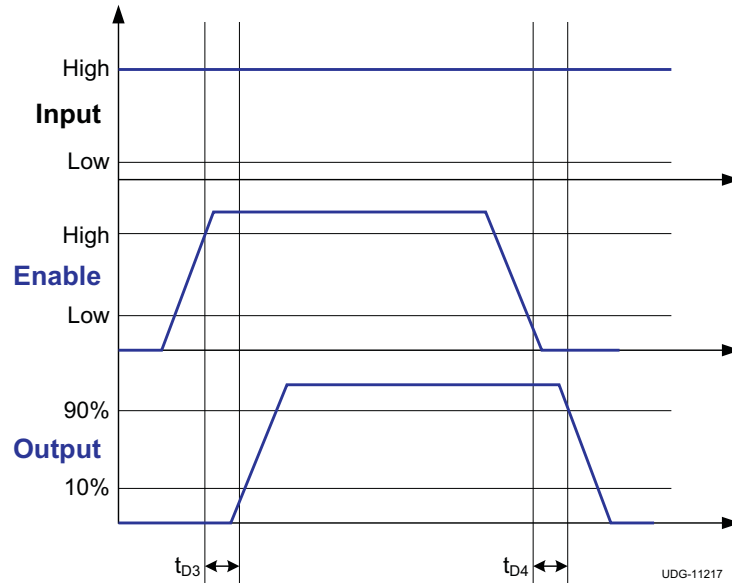

Figure 3. Enable and Disable Function (non-inverting configuration, UCC27519)
(1) Ensured by Design.
(2) R_{OH} represents on-resistance of P-Channel MOSFET in pull-up structure of the UCC27518 and UCC27519's output stage.
(3) See timing diagrams in Figure 1, Figure 2, Figure 3 and Figure 4.